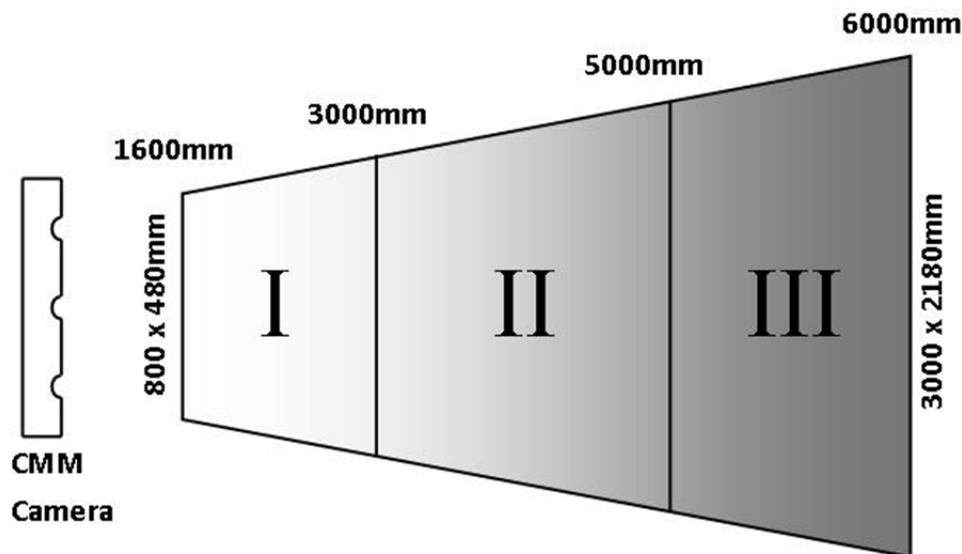

Figure 10 CCM System Accuracy Zones (from User Manual)
- Field-of-view: 13.1 m3 distributed into three accuracy zones as shown in Figure 10.
MAST has four 48"x48"x4" steel transfer plates that can be used for specimen attachment to the strongfloor or strongwalls and have a nominal capacity of 1000-kips normal to the plate and a shear capacity of 1000-kips. The plates are attached to the strongfloor or strongwall and the specimens connect to the plates via the 1"-diameter threaded holes. Figure 10 details the plate layout and dimensions.